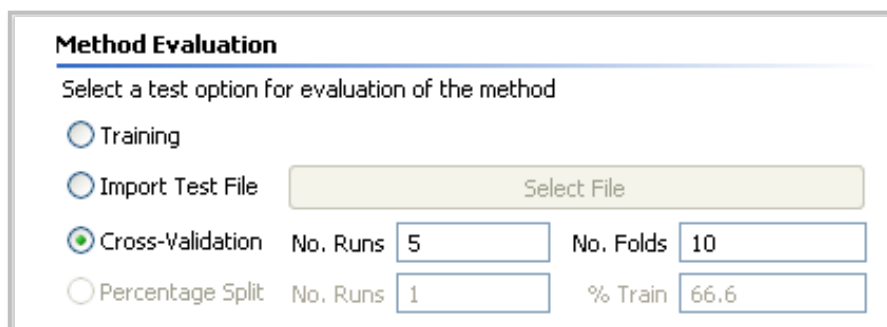

Figure 66: 5x10-fold cross-validation evaluation
3. **Cross-validation:** the entire dataset is divided into k segments or folds. A model is built using data from folds 2 to k and this model is tested on the data from the first fold. Then the second fold is left out of the training (which is now based on folds 1 and 3 to k) and used as the test dataset. This process is repeated until all folds have been held out as a test set. In this way, the method is tested on samples of the dataset in a single cross-validation run. The number of folds, k , is specified by the user (default number is 10). To carry out a more robust evaluation, a number of cross-validation runs may be used, in which the division of the dataset into folds differs between each run. For example, in Figure 66, a 10-fold cross-validation has been selected and this is to be repeated 5 times (abbreviated as 5x10-fold cross-validation).